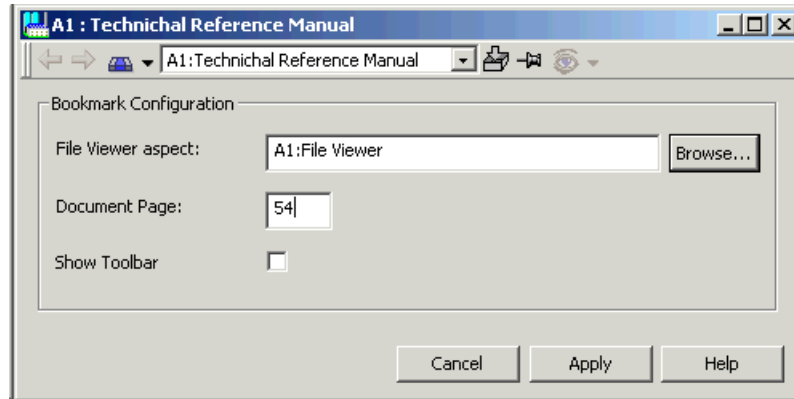

*Figure 294. Technical Reference Manual - Chapter*
3. Select the File Viewer aspect that contains the wanted document of the File Viewer aspect type, see Figure 294.